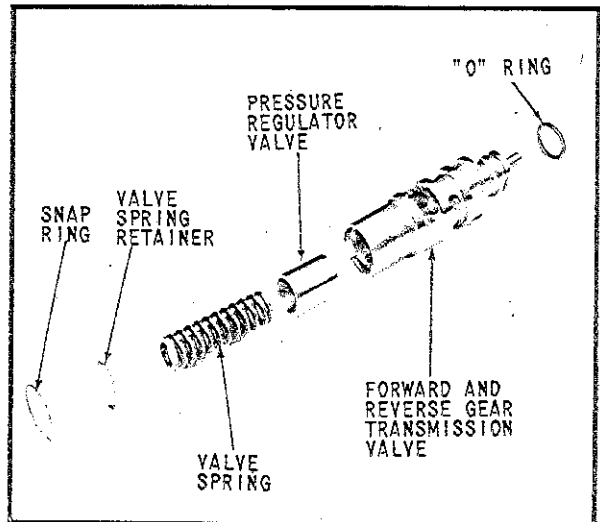

Fig. 70 Exploded View of Valve and Spring Assembly
70. Collect the valve and spring assembly components, as shown in (Fig. 70) on a clean surface and note carefully the following: